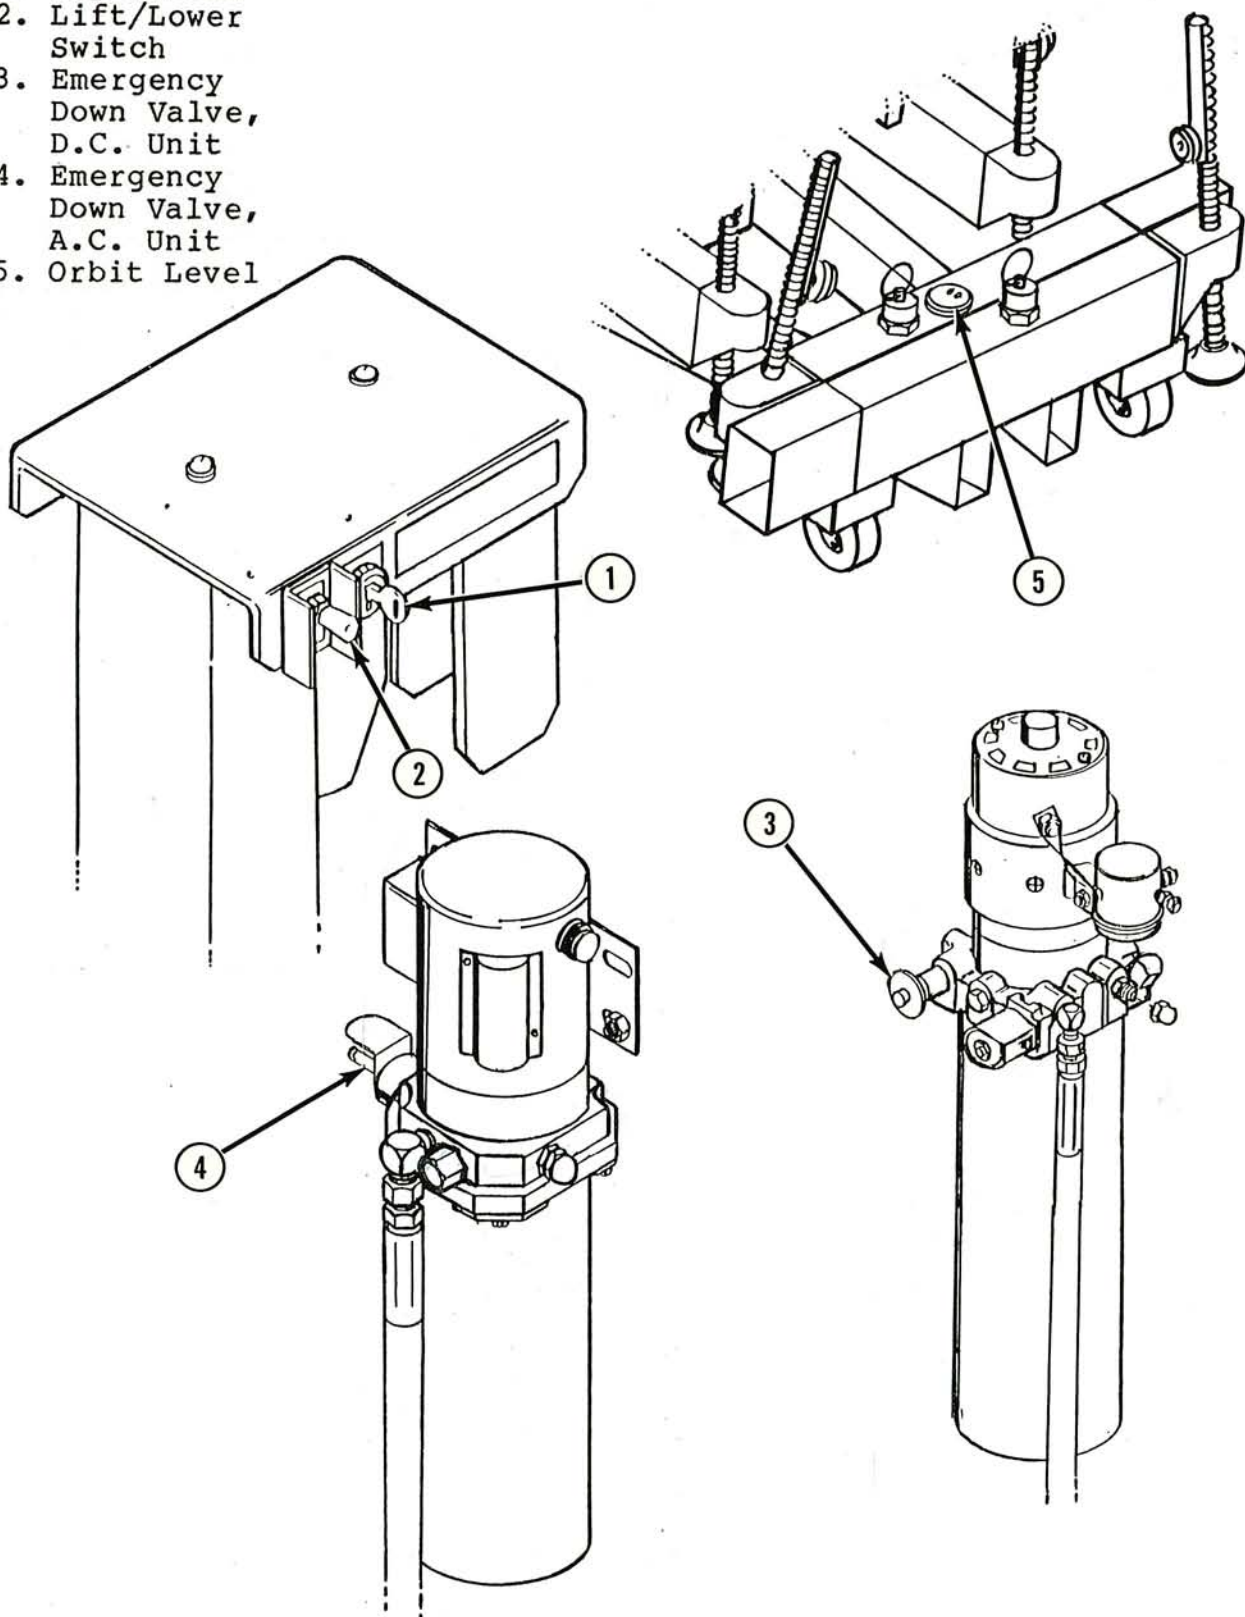

Figure 4-1. Controls and Indicators
4-4. CONTROLS AND INDICATORS. The controls and indicators for operation of the Up-Right Lift are shown in Figure 4-1. The name and function of each are shown in Table 4-1. The index numbers in Figure 4-1 correspond to the index numbers in Table 4-1.
- d. Turn on the keyswitch (1, Figure 4-1).
- e. Lift **UP** on the toggle switch (2, Figure 4-1) to elevate the platform.
4-9. EMERGENCY PLATFORM LOWERING. In the event of a power loss or electrical malfunction the platform may be manually lowered from the ground by means of a valve located on the power unit (3,4 Figure 4-1.).